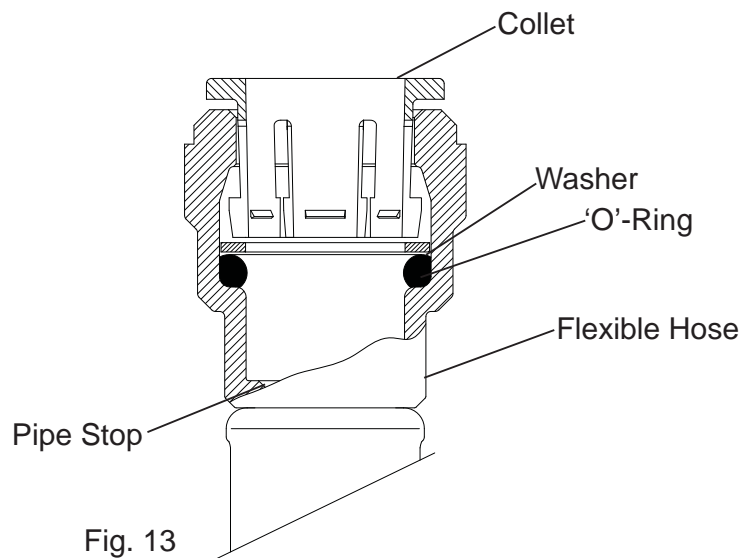

Fig. 13
3. Check in the mouth of the fitting that the 'O'-ring, nylon washer and collet are in position as shown in Fig. 13.